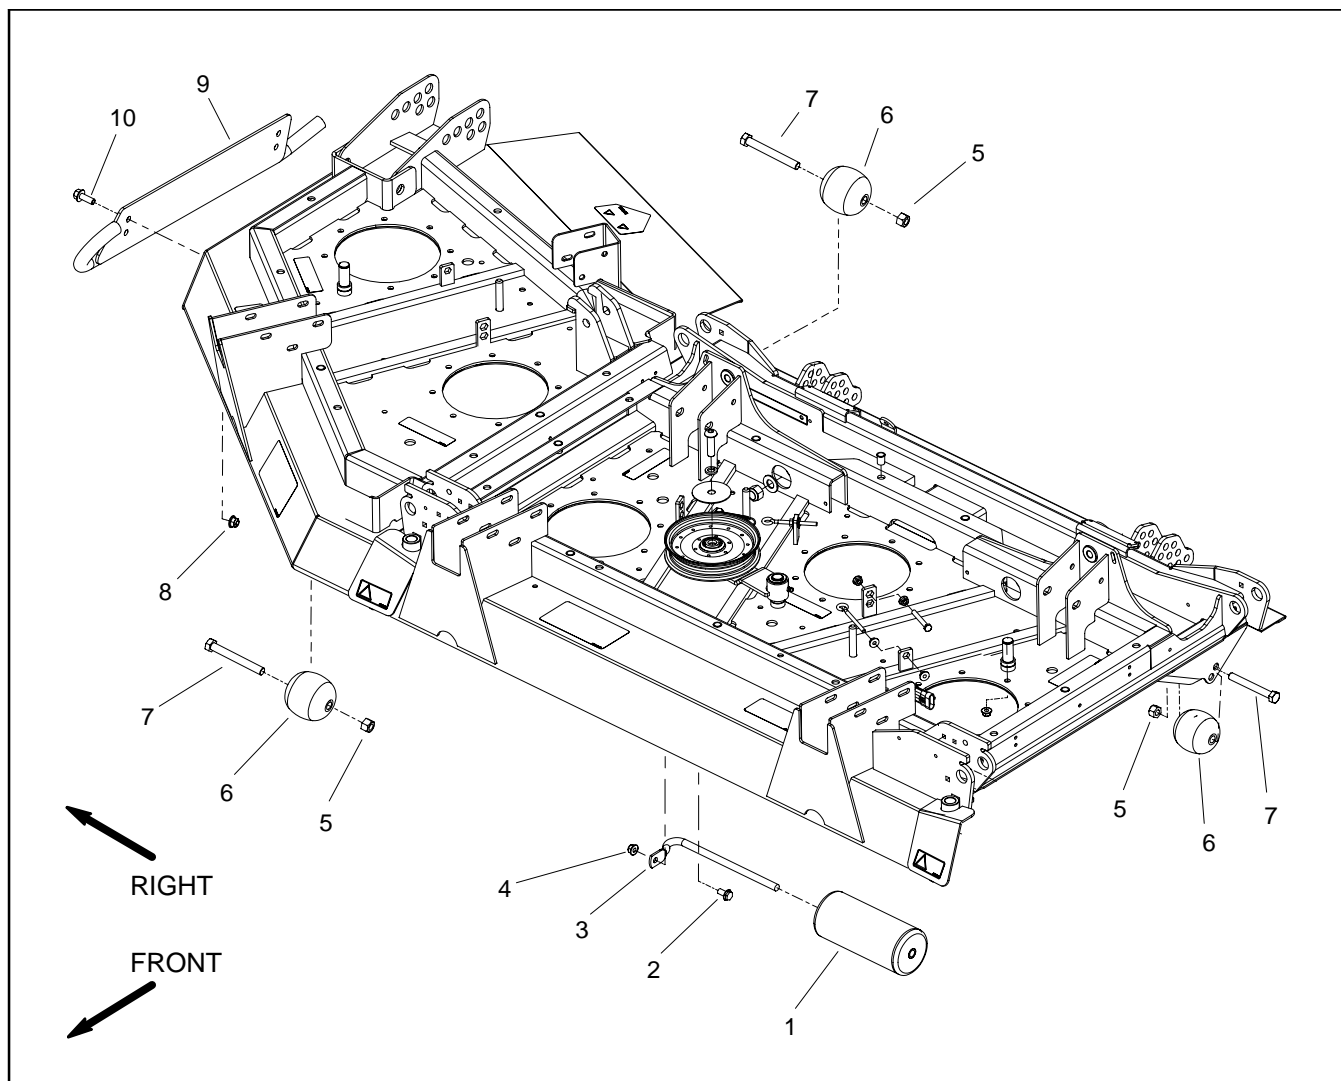

Figure 23
Removal (Fig. 23)
1. Remove skids and rollers from deck using Figure 23 as a guide.
Installation (Fig. 23)
1. Install skids (item 9) to deck using Figure 23 as a guide. Make sure to install skids in the same mounting hole height position (lower or upper).
2. Install rollers (items 1 and 6) to deck using Figure 23 as a guide. When installing roller (item 6), install cap screw with the threads orientated toward the centerline of the deck. Install and tighten lock nut until roller will not rotate, then loosen lock nut only enough to allow roller to rotate freely. Make sure to install all deck rollers in the same mounting hole height position (lower or upper).